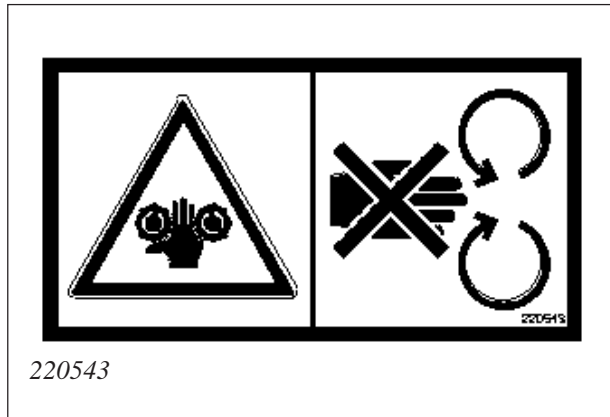

Fig. 23
**Warning sign 220543 (Fig. 23).** Squeeze risk. Keep distance from rotating axial rollers.